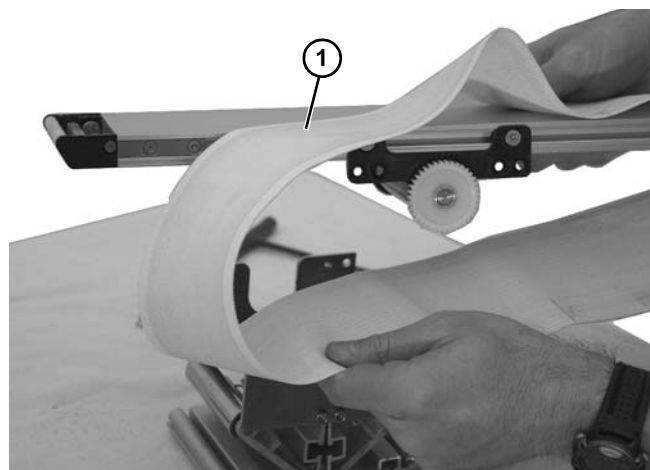

Figure 25
12. Remove belt (**Figure 25, item 1**) from conveyor.